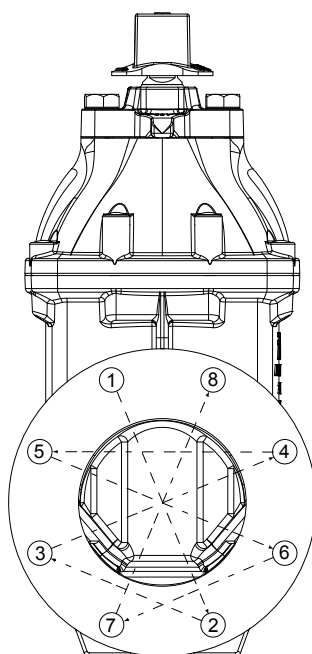

Fig. 2
9. Tighten the bolts and nuts in the crossover method shown in Fig. 2, to load the pipe and valve evenly and prevent stress on the joints.